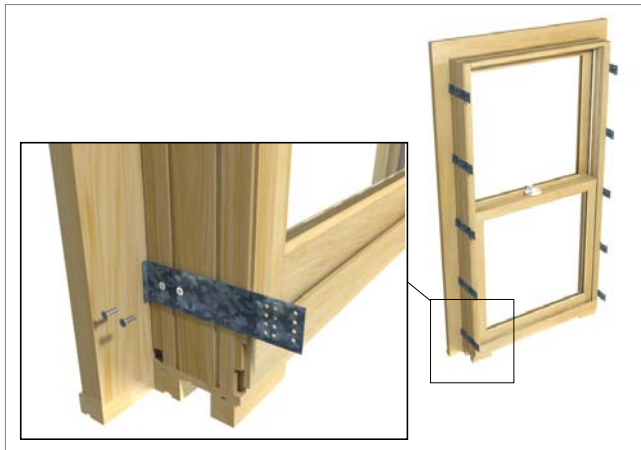

Figure 5 Apply brackets/clips to units with flat casing (if applicable).
2. If you are installing a window with installation brackets or structural masonry clips, fasten to the window now (if not installed at the factory). Follow the instructions provided with the brackets. See figure 5.